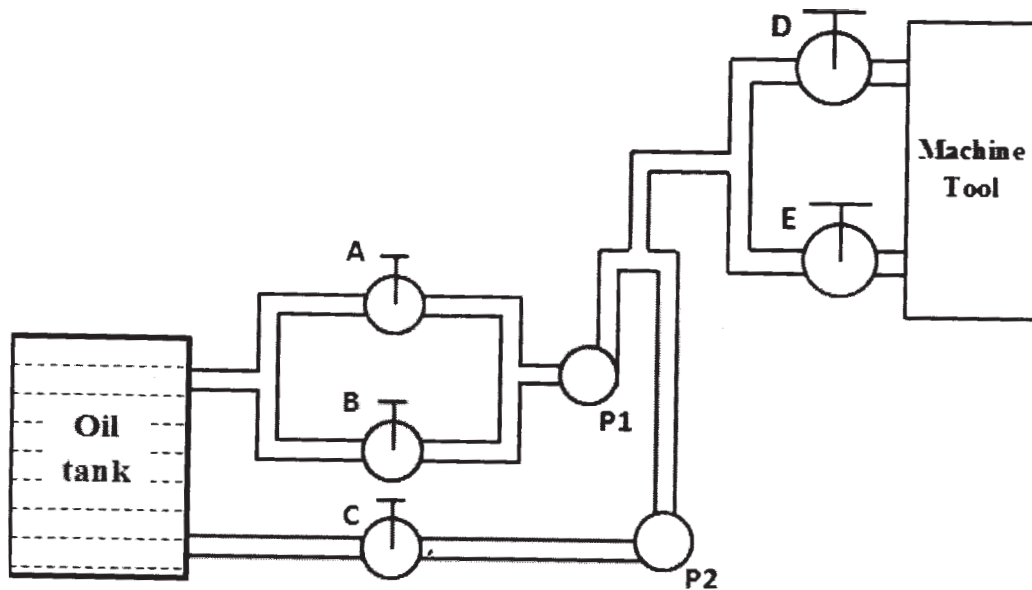

Fig.3 Hydraulic circuit to supply oil from oil tank to machine tool
- Q8) a)** A hydraulic circuit (system) is shown in Fig. 3. There are two supply lines having various valves (A, B, C, D and E) and gear pumps (P1 and P2) through which oil is supplied to machine from oil tank.